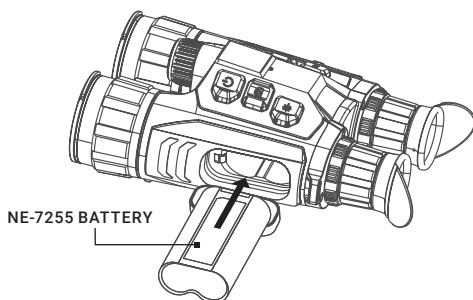

FIGURE 2-2. BATTERY INSTALLATION
2. Open the battery compartment cover (2).
3. Insert the battery into the battery compartment (Fig. 2-2). The latch locks the battery in place when the battery is fully inserted.